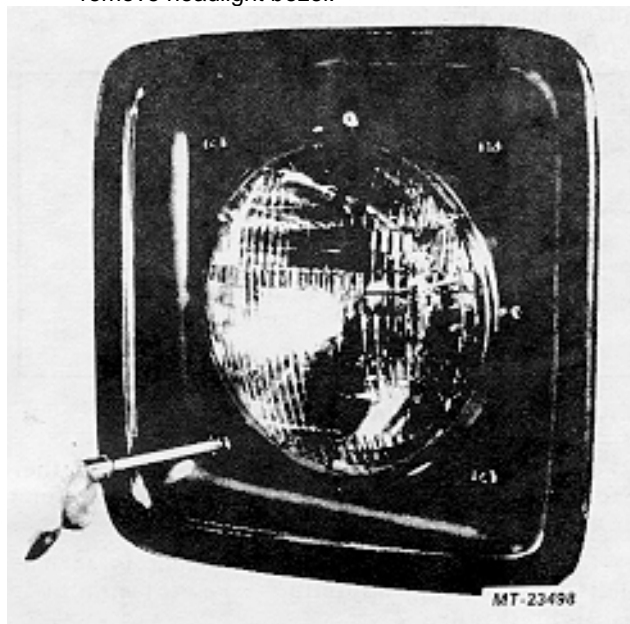

Fig. 3 Removing Headlight Bezel
1. Remove four (4) retaining screws (Figure 3) and remove headlight bezel.
1. Remove four (4) retaining screws and remove headlight bezel (Figure 3).